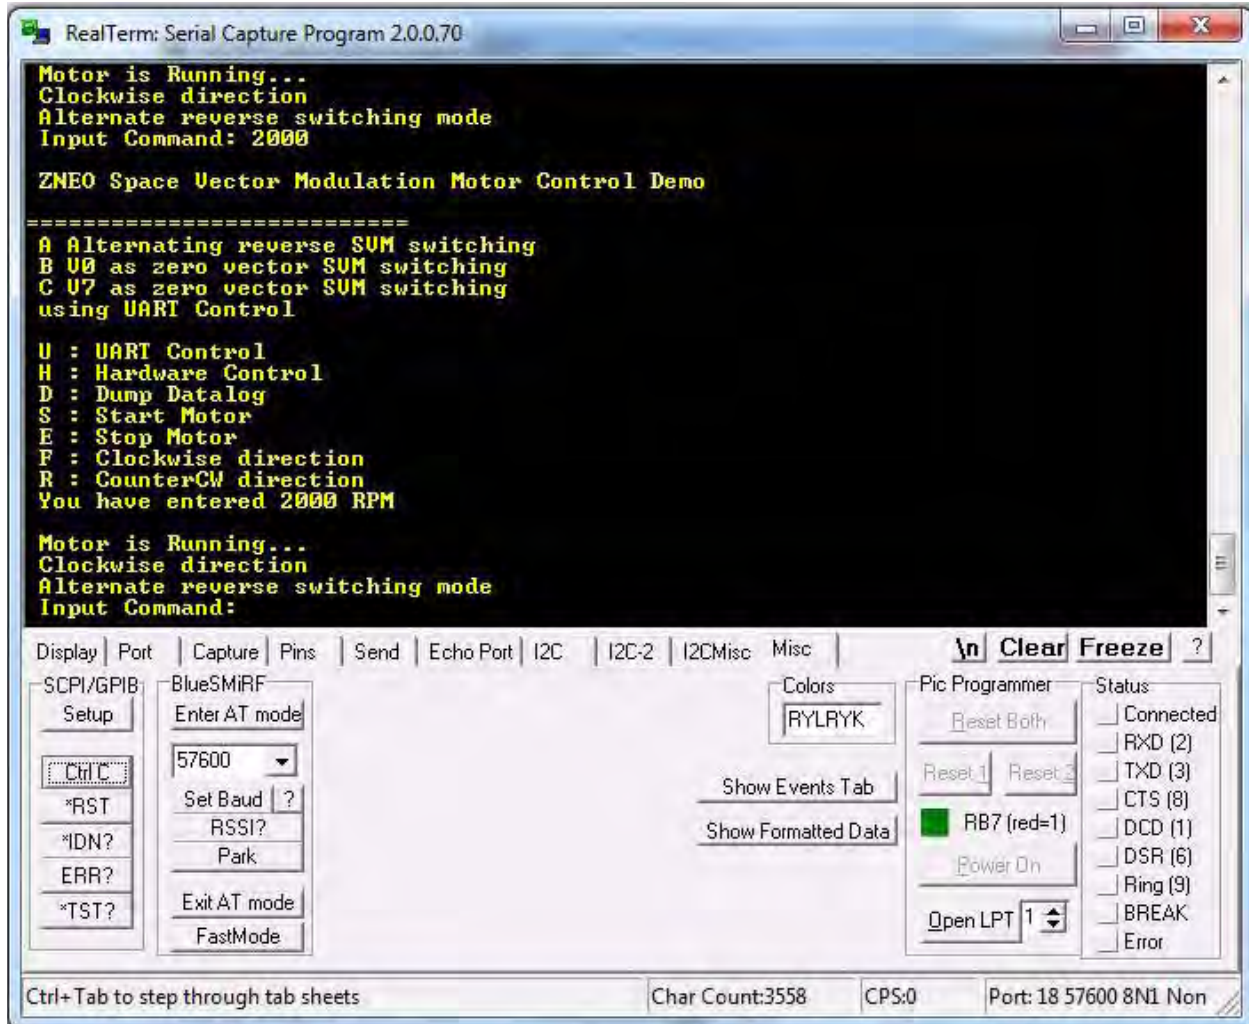

Figure 3. An Example Data Display
9. Using a serial terminal emulation program such as HyperTerminal, TeraTerm, or RealTerm, configure the serial port to 57600-8-N-1-N. A typical example of multimotor operation under UART control using RealTerm is shown in Figure 3; this example is discussed more fully in the Space Vector Modulation of a 3-Phase AC Induction Motor with the Z16FMC MCU Application Note \(AN0354\).